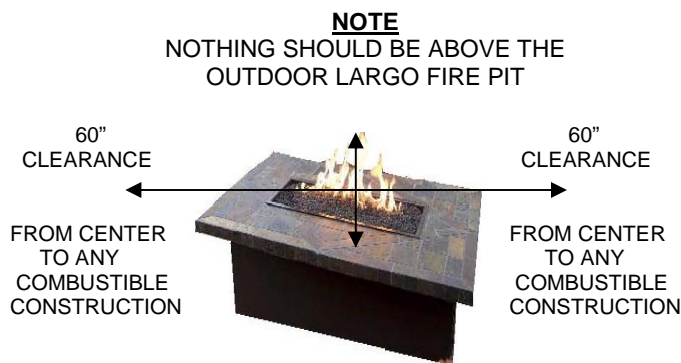

FIGURE 1
- Sidewalls: 60" from center of unit (Figure 1)
The dimensions shown in Figure 1 are **MINIMUM CLEARANCES** to maintain when you install this outdoor Largo Fire Pit. **THERE MUST BE AT LEAST 60" of clearance from the center of the unit** to any combustible sidewalls. The unit **MUST NOT BE** installed under any type of ceiling or overhang.